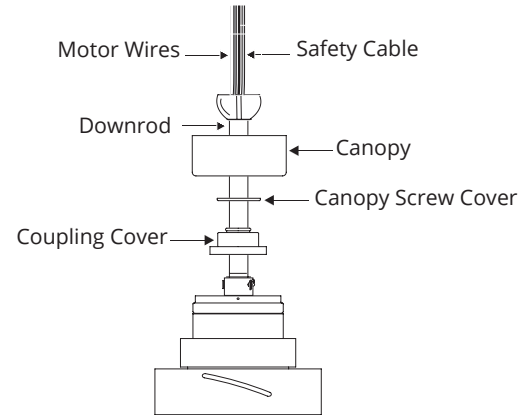

FIG. 10
1. Slip the coupling cover, canopy screw cover (painted side face down), and canopy (opened side up) onto the downrod (FIG. 10). Coupling cover goes all the way to the bottom.
2. Carefully reinstall the hanger ball onto the downrod, being sure that the cross pin is in the correct position, the set screw is tightened and wires are not twisted (FIG. 10).